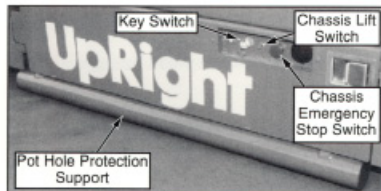

Figure 1: Chassis, Left Side
9. Turn Chassis and Platform Emergency Stop Switches ON (Figure 1 & 2) by pulling the button out.
10. Turn the Chassis Key Switch (Figure 1) to **CHASSIS**.
11. Push Chassis Lift Switch (Figure 1) to **UP** position and fully elevate platform.